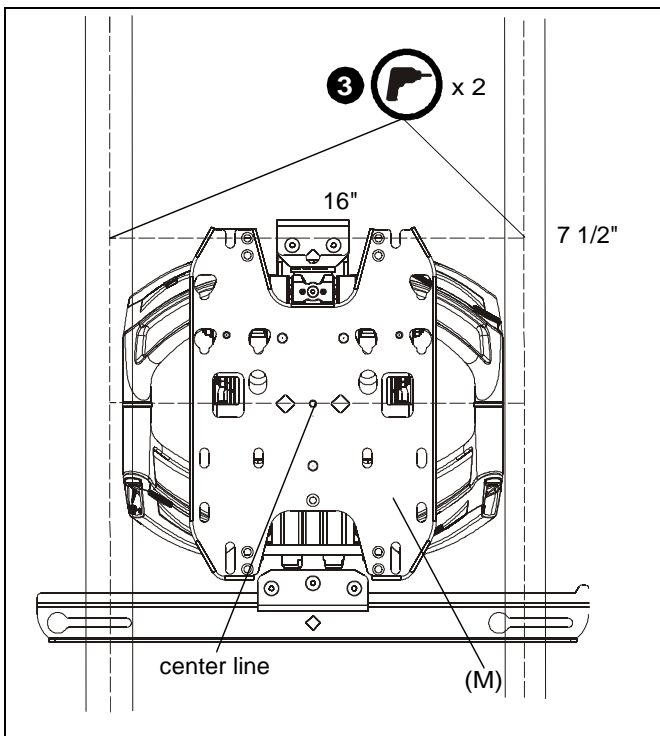

Figure 1
2. Measure 7 1/2" above desired center line and draw a horizontal line. (See Figure 1)
NOTE: Hold mount up to wall at desired mounting location if unsure about where the center line will be. The center line of the mount will coincide with the center line of the display. (See Figure 1)
3. Drill two 13/64" holes at center of wood studs along the line drawn in the Step 2. Holes should be 2" in depth. (See Figure 1)